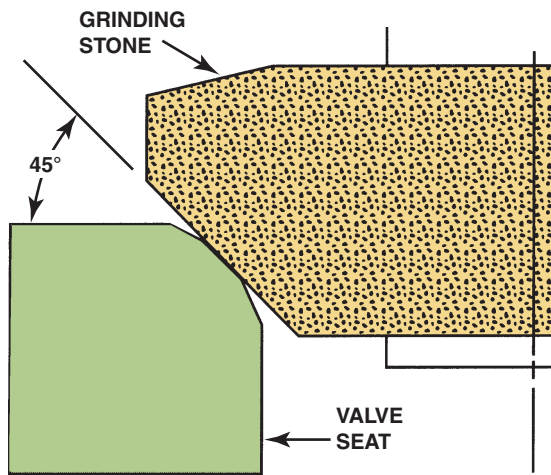

FIGURE 27-24 Grinding a 45 degree angle establishes the valve seat in the combustion chamber.
- **30 degrees.** Usually used on intake valves only. The 30 degree valve seat is more likely to burn than a 45 degree seat because some deposits can build up to keep the valve from seating properly. The 30 degree valve seat will, however, allow more gas flow than a 45 degree valve seat when both are opened to the same amount of lift. ● **SEE FIGURE 27-24.**